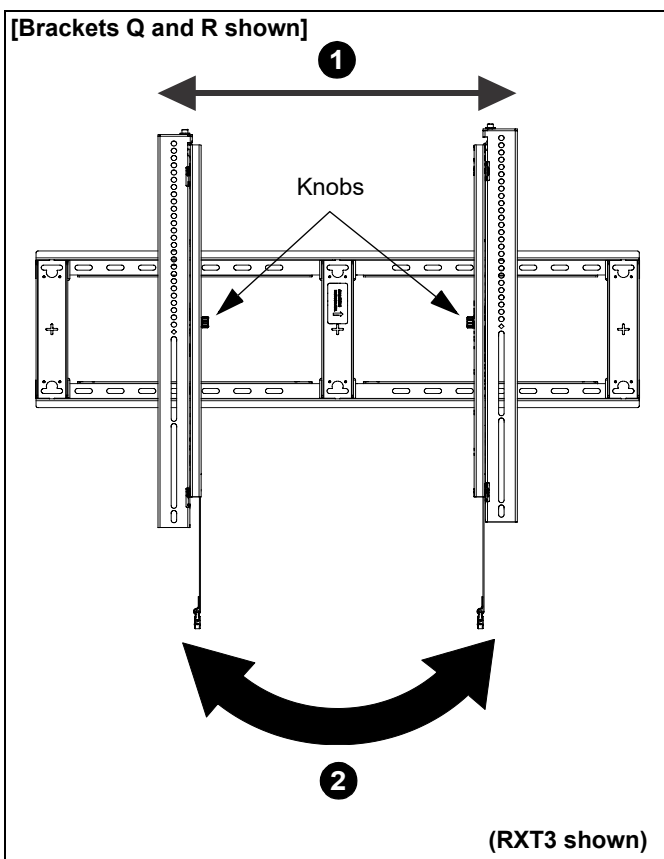

Figure 11
1. The wall brackets may be adjusted side to side at the point of attachment. (See Figure 11)
2. The location of the left and right interface brackets (Q and R or S and T) may be switched, with the knobs on the RXT3 interface brackets (Q and R) facing the inside of the mount. (See Figure 11)